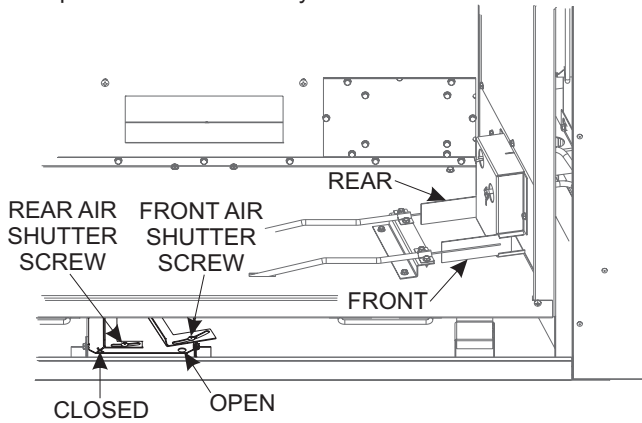

Figure 7
9. Loosen rear air shutter screw and rotate handle to the left until 1/8 inch opening is achieved and tighten down screw. **(Figure 7)**